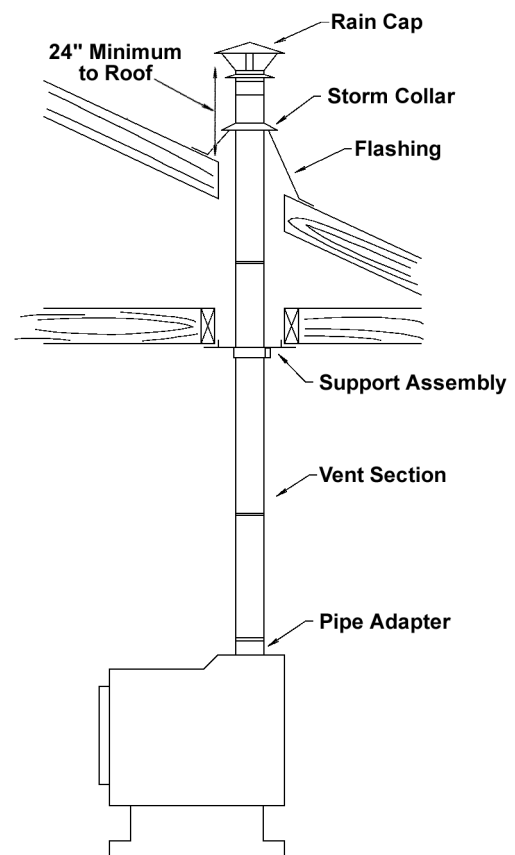

Figure 3
7. The rain cap of a vertical (through the roof) installation must be at least 24 inches above the roofline. See Figure 3.
- 1.8 Alternatively, a support assembly may be used in place of the black ceiling support. The support assembly fits into the ceiling opening from below, and is fastened to joists with 4 x 1.5" spiral nails or screws. See Figure 3.
- 1.17 Set the rain cap onto the top vent section and twist-lock it to the top vent section. See Figure 3.